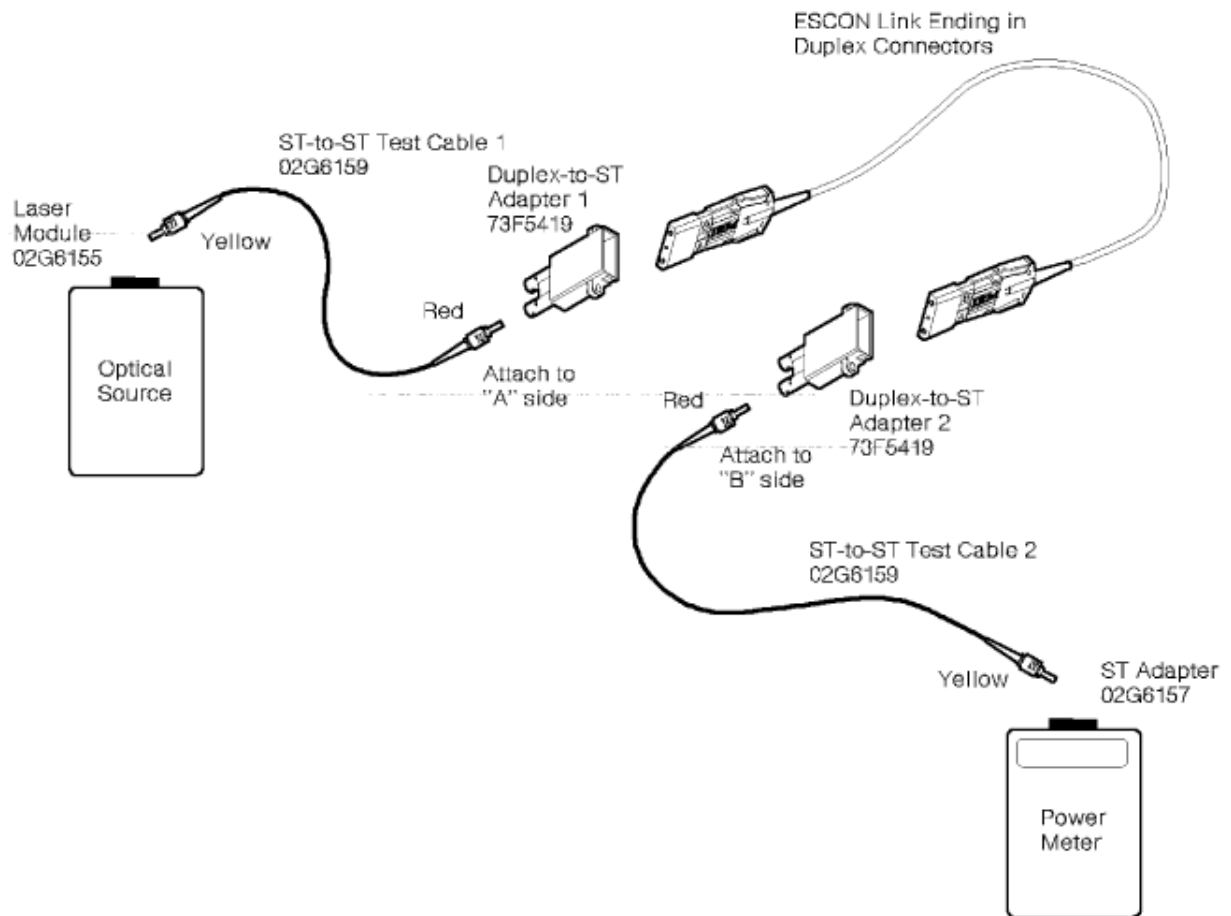

Figure 58. Connecting the test equipment to a single-mode link
6. Attach the test equipment to the link as follows (see Figure 58 on page 50):